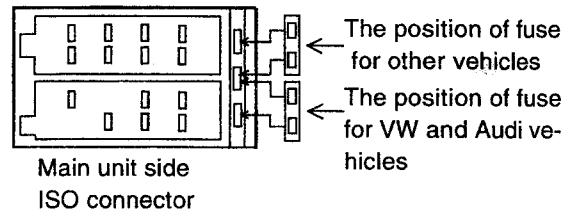

Fig.1
1. For VW and Audi vehicles, change the position of fuse installation as shown on the diagram. (Fig.1)